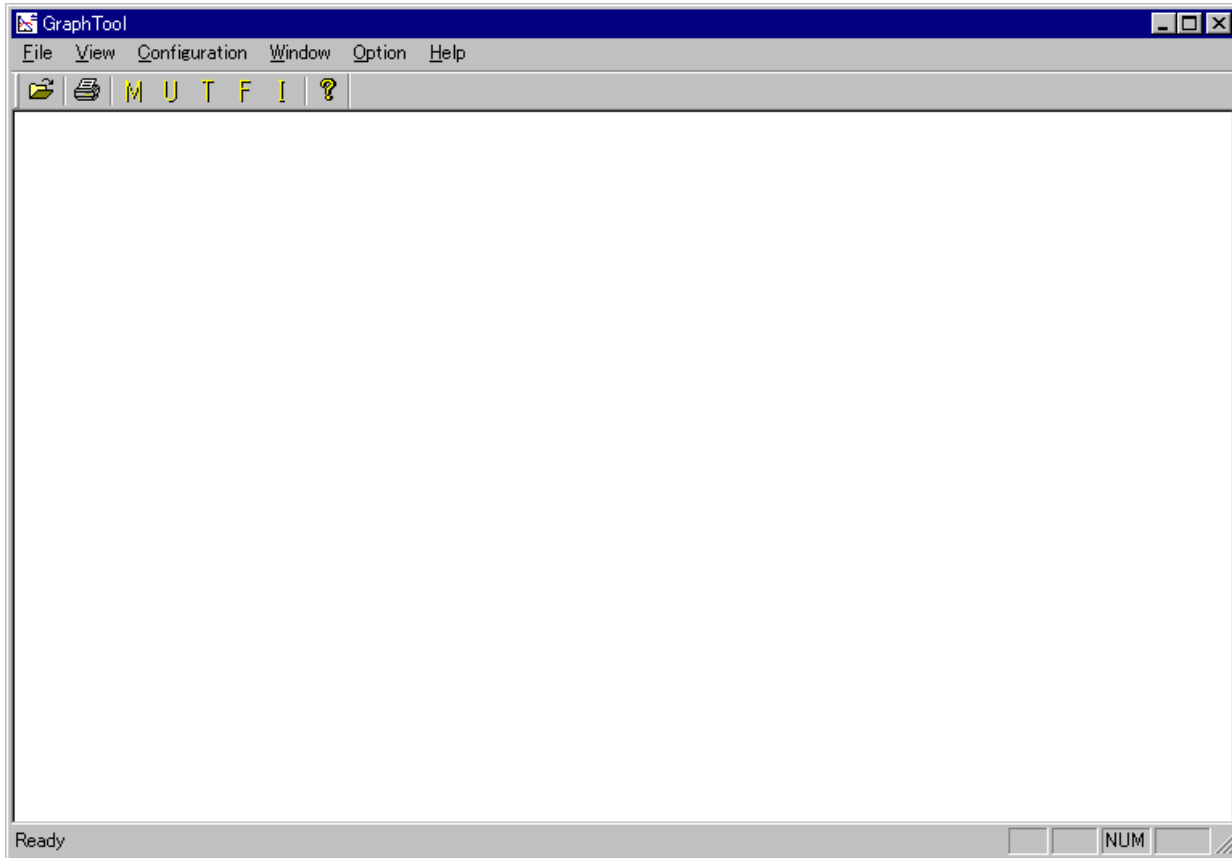

Figure 5.6 GraphTool Main Panel
1. On the GraphTool main panel (see Figure 5.6), select **About GraphTool...** from the **Help** menu, or select the  icon to display the GraphTool version information.
When you start the GraphTool software, the GraphTool Main panel opens (see Figure 5.6). The GraphTool Main panel provides access to all GraphTool functions.